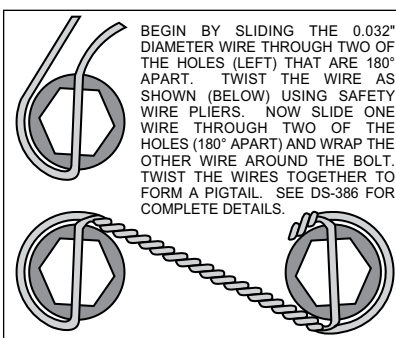

Figure 3. Safety Wire Diagram
•With the larger I.D. side of the rotor (5) facing away from the hat (6), bolt rotor (5) to hat (6) through the backside of the rotor using washers (7) and bolts (8). Apply red *Loctite*® 271 to the bolt threads and torque to 155 in-lb using a criss-cross pattern. For an added measure of security, the bolts may be safety wired using standard 0.032 inch diameter stainless steel safety wire as shown in Figure 3. Please refer to Wilwood’s data sheet DS-386 (available at www.wilwood.com/Pdf/DataSheets/ds386.pdf) for complete safety wire installation instructions. Slide the rotor/hat assembly onto the hub. Install a couple of lug nuts (finger tighten) to keep the rotor/hat assembly in place while continuing with the installation.